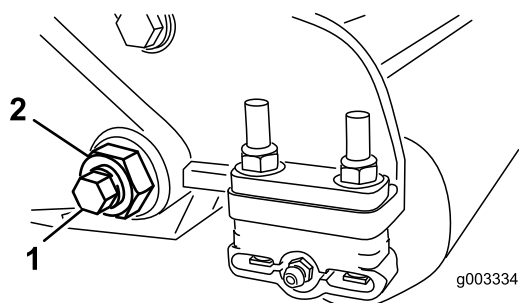

Figure 28
3. On each side of the machine, loosen the locknut securing the bedbar bolt (Figure 28).
4. Remove each bedbar bolt allowing bedbar to be pulled downward and removed from machine bolt (Figure 28).